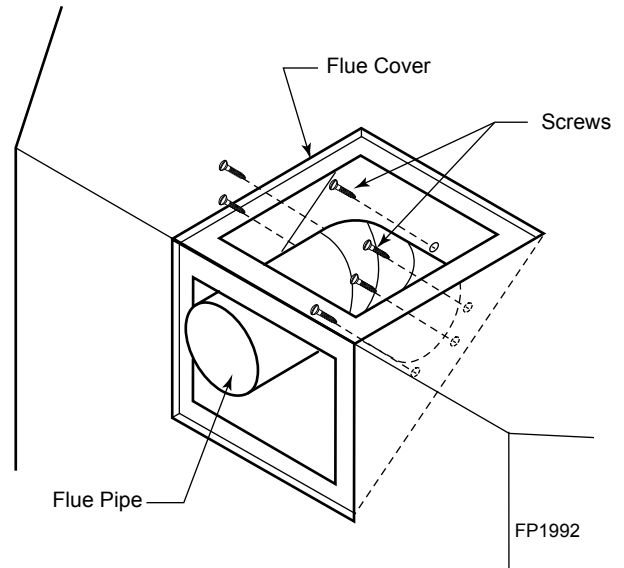

Figure 8 - Remove Flue Pipe
4. Remove eight (8) screws securing the flue pipe to the back of the intake box and remove the pipe and gasket. *Figure 8*